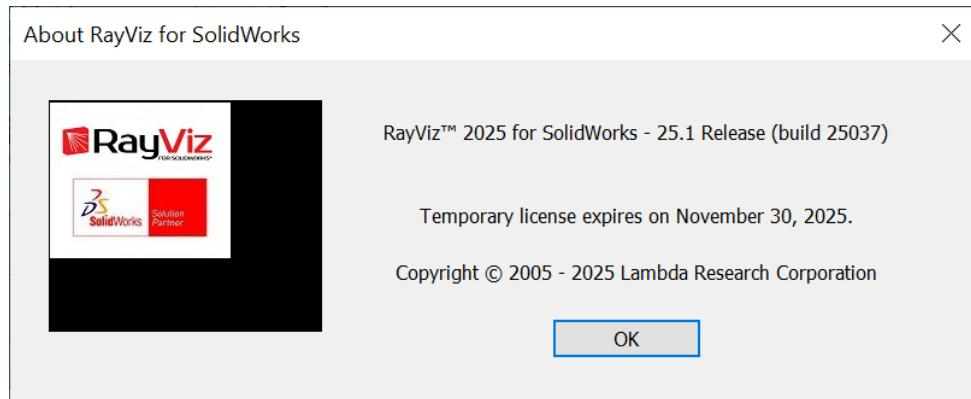

Figure 3.7 About RayViz for SOLIDWORKS dialog.
- **About RayViz..:** This selection shows the about box for RayViz as shown in Figure 3.7. Of importance in this dialog is the Version, License Information and Build Numbers, which you can refer to when asking Technical Support or update questions. Select **OK** when done.